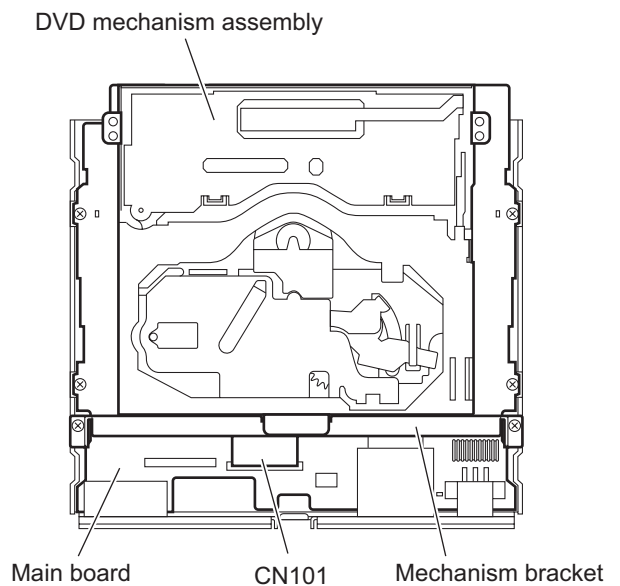

Fig.12
- Release the lock of the connector **CN101** on the main board in an upward direction and disconnect the card wire. (See Fig.12.)
When connecting the card wire to the connector **CN101**, pass it through the lower part of the mechanism bracket. (See Fig.12.)